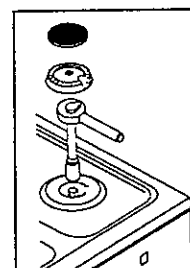

Fig. 16
- Keep the remaining orifices in their plastic bag for future use. (See Figure 16 and Table 1)